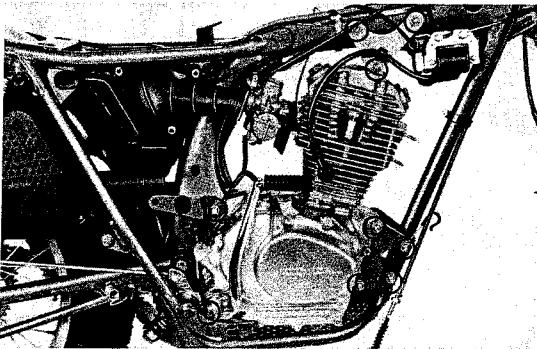

Fig. 28 O = Engine hanger bolts
- 12) Remove the nuts from the engine hanger bolts. Lift the rear of the engine just enough to remove load from the hanger bolts; pull off the bolts. (Fig. 28)